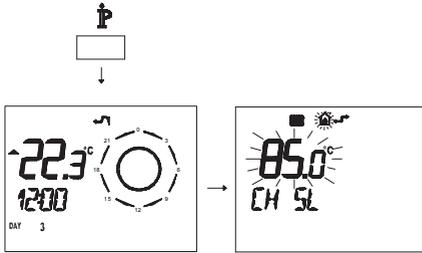

Fig. 7.22
- Press button \hat{P} for more than 3 seconds to enter in **INFO** (Fig. 7.22) mode.